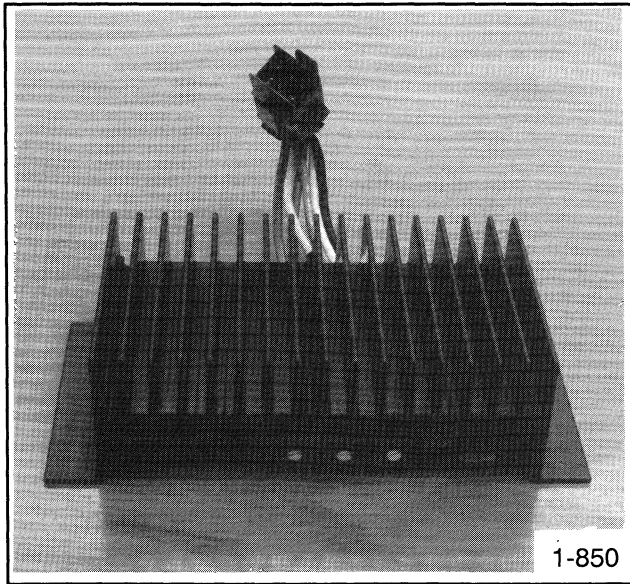

Figure 7-1. PowerBoost III Voltage Regulator.
1. Disconnect all leads from voltage regulator. See Figure 7-1.